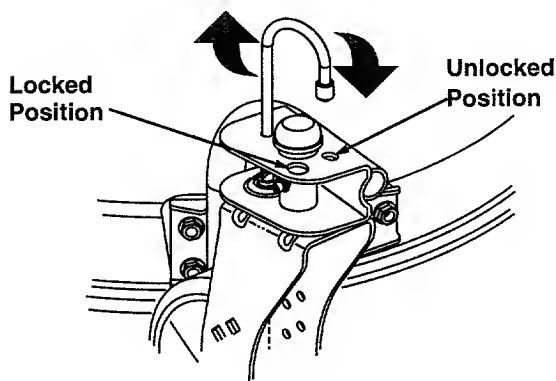

Figure 9
- **To lock caster:** Lift and place the lock pin in the larger hole on each caster. See Figure 9.
- **To unlock caster:** Lift and place the lock pin in the smaller hole to allow casters to rotate freely. See figure 9.